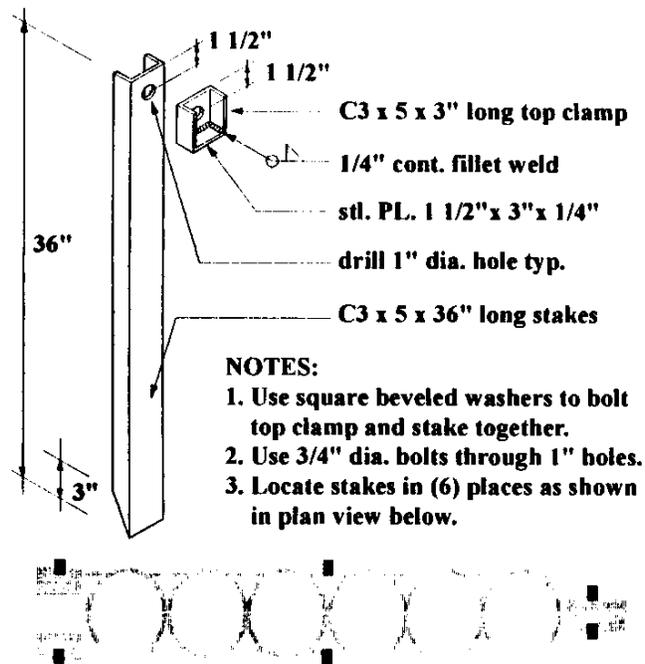

FIG. 6
- 14" railroad spikes plus (6) 36" stakes as per FIG. 6
When all spikes have been installed, six 36" long channel stakes (see FIG.6) should be driven at a shallow angle adjacent to the structure at locations shown in the FIG.6 plan view. When the stakes are driven, the top clamps (also shown in FIG.6) are bolted to the stakes holding them in contact with the track or plate structure.